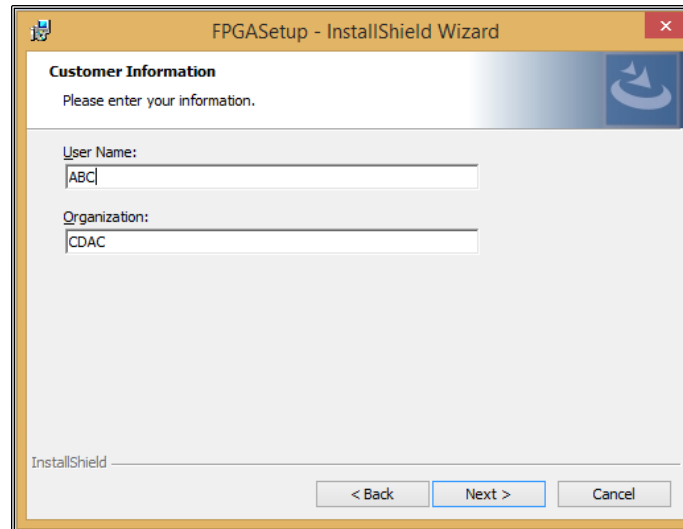

Fig A.5
Step 6: Fill you information i.e. Name and Organization Name (Fig A.5). Click **Next**.